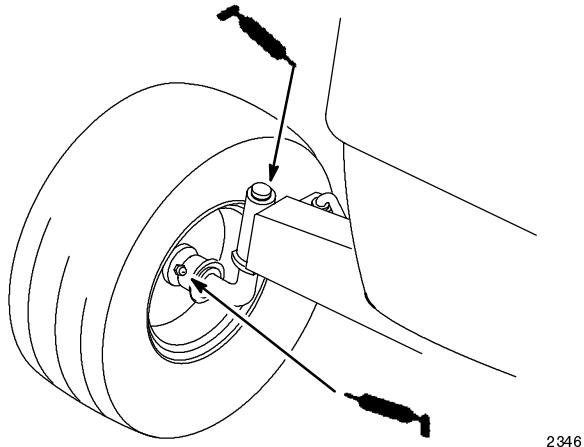

Figure 14
1. Lubricate the front wheels until grease begins to ooze out the bearings (Fig. 14).